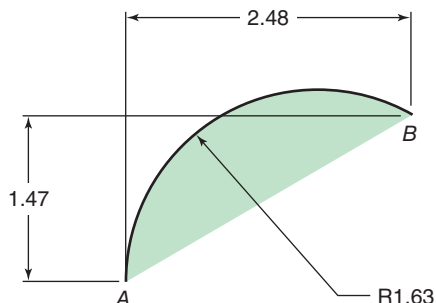

Figure 22-14 Problem 2—Write the radius method command.
2. Using the information in Fig. 22-14, write three different arc commands: the default command from *A* to *B*, the arc greater than 180 degrees from *A* to *B* (use the minus radius symbol for greater arc), and the default arc from *B* to *A*.